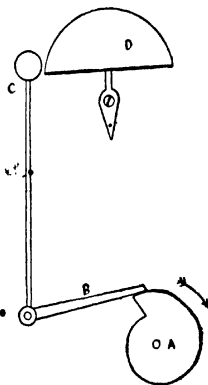

FIG. 75.—One-at-the-hour Striking Mechanism.
**One at the Hour.**—The simplest kind of striking work is that found in some English skeleton clocks which strike one blow at each hour, just as a reminder. Fig. 75 shows the mechanism. The cam or snail, A, is on the cannon pinion and revolves in the direction of the arrow. B is the lower arm of the hammer and rests upon A. The position shown in Fig. 75 is about five minutes to the hour; when the snail A travels a little further, the arm B will fall and the hammer head C will strike one blow upon the bell D. The movement of the hammer is assisted by a light spring.